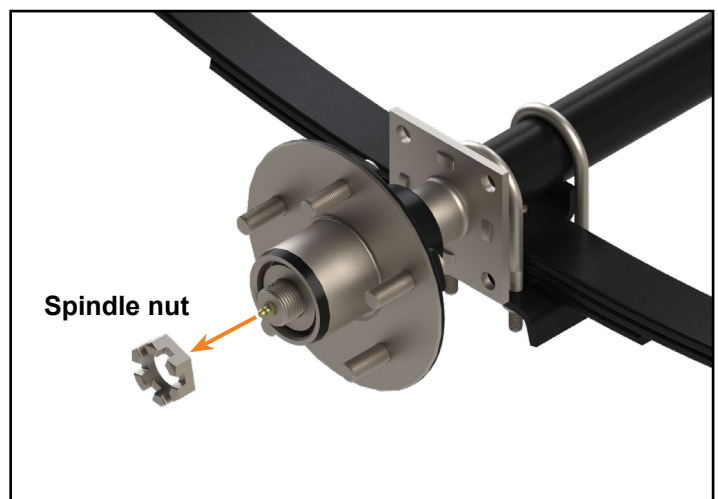

Fig.5
11. Remove the castle spindle nut (Fig. 5).